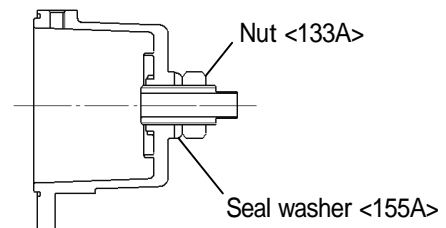

Fig.25
(2) Tighten the stopper with the seal washer and the nut (Fig.25).